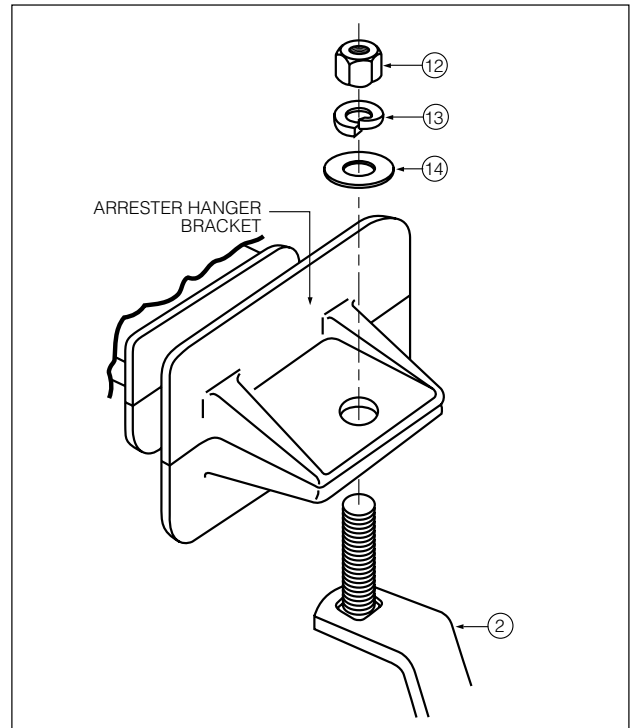

Figure 2. Mounting UltraSIL housed surge arrester to transformer
2. Install the arrester contact arm (item 8) under the line lead clamp (item 4), as shown in Figure 2. Position the arrester contact arm so the open end of the "V" faces away from the transformer bushing (item 11).
- Attach the line lead to the arrester between the line lead clamp and the arrester contact arm. Torque the hex nut (item 3) to 20 ft-lbs (see Figure 2).